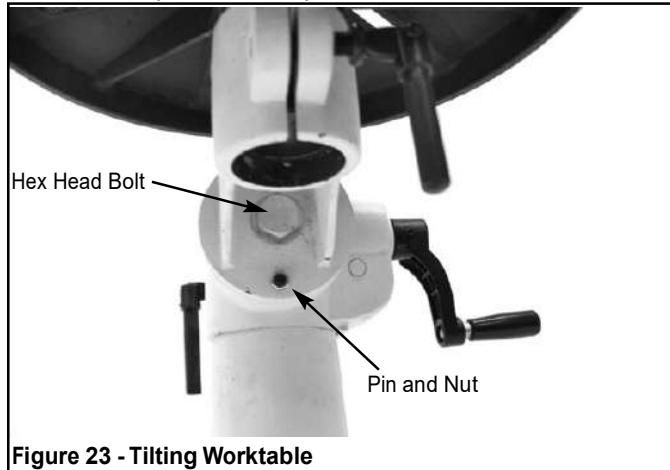

Figure 23 - Tilting Worktable
- Clamp table securely after adjustments have been made. (See Figure 23, page 10).